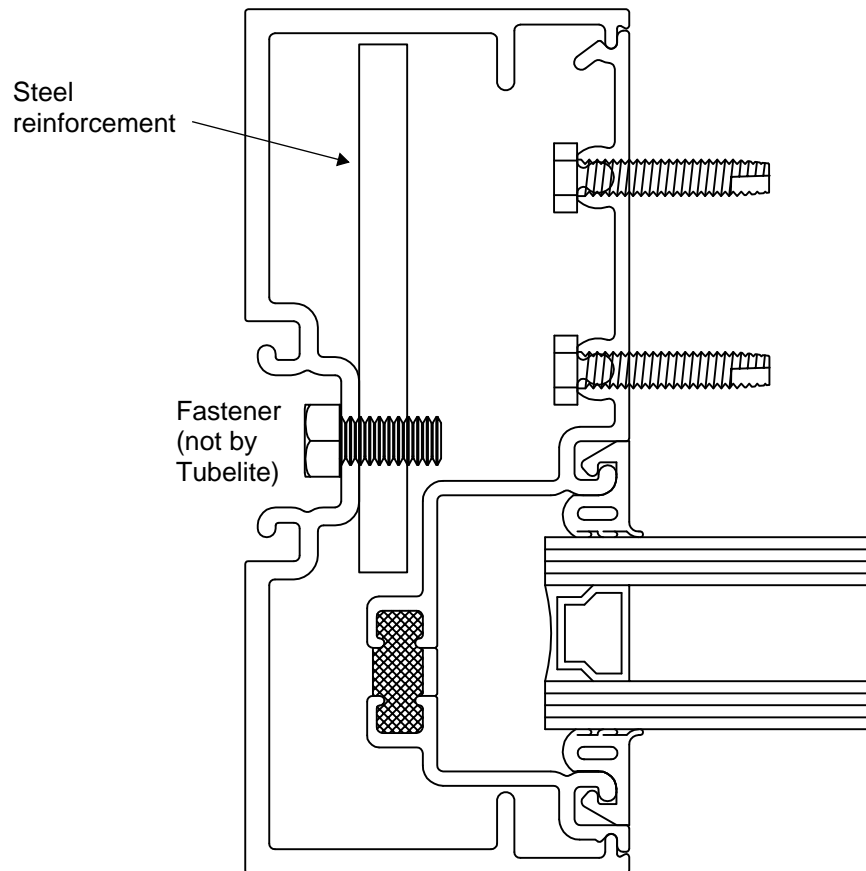

Figure 6: Install steel reinforcement if necessary.
- Insert steel into the mullion as shown in Figure 6. Align and center the steel with mullion, then drill .213" diameter holes through the mullion and steel according to shop drawings.